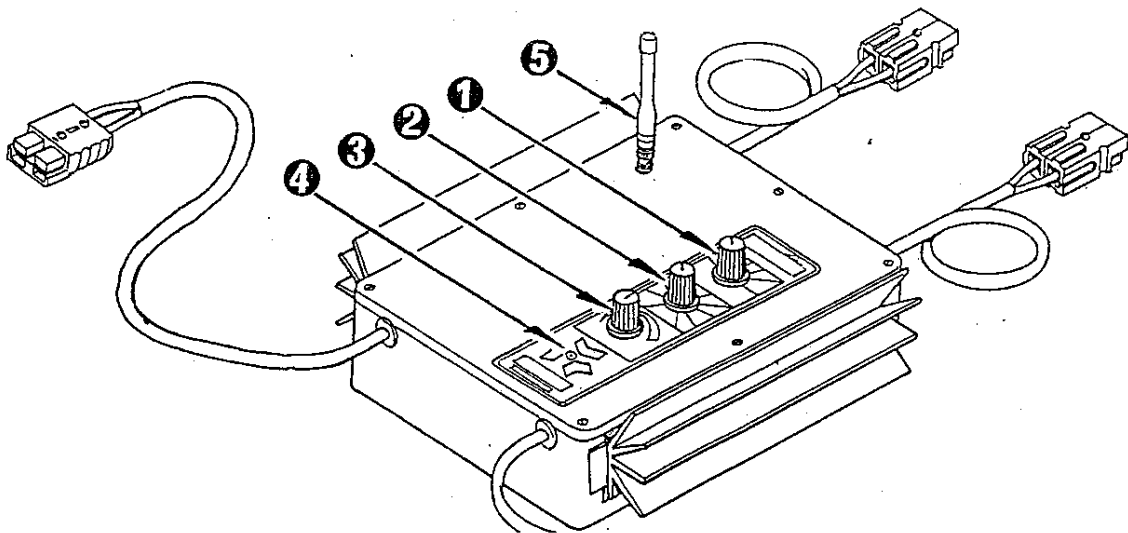

Fig 4 - Orbiter Control Unit
The principal features of the Orbiter Control Unit are shown in Fig. 4 below.
1. Ensure that the aerial is correctly fitted (Fig 4 item ③).
2. Set the Time per Play selector (Fig 4 item ②) to 4 1/2 minutes.
3. Set the Coins per Play selector (Fig 4 item ①) to the one coin position.
4. Set the Sound Volume (Fig 4 item ④) to approximately 1/4.
Tip! The ORBITER Control Unit Time per Play selector (Fig 4 item ②) will only be effective when the ORBITER is used in the Individual mode. The Coins per Play selector (Fig 4 item ①) is effective in all modes except Session Play - Pay Attendant.